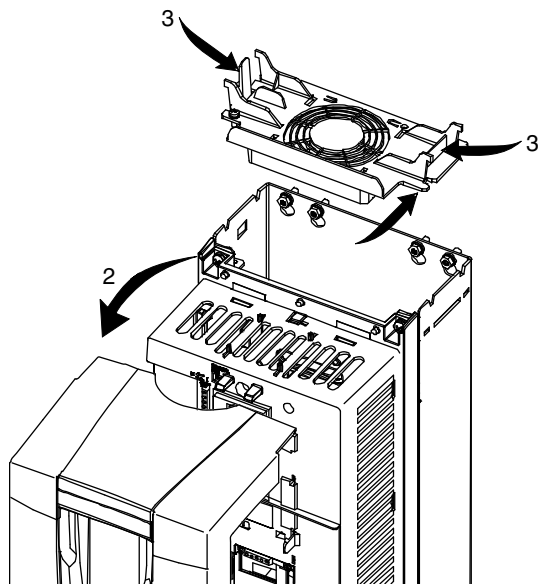

Fig. 39 — Remove Top Cover on ACH550 VFD
3. Press together the retaining clips on the top cover and lift (see Fig. 39).